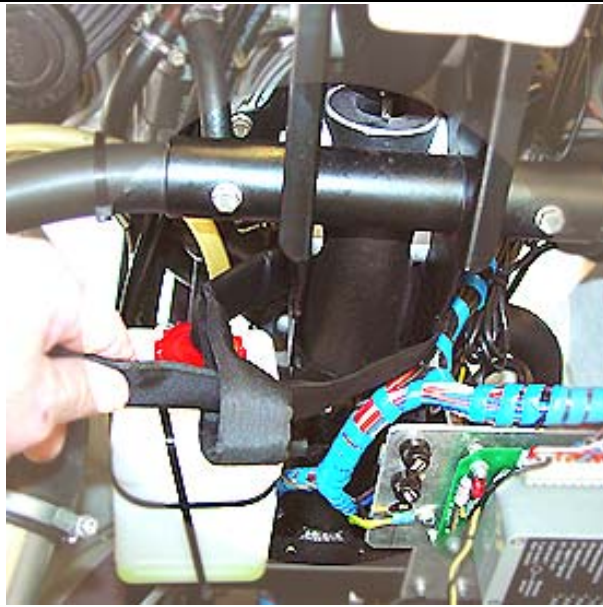

Figure 2-8: The free end of the Harness being pulled through the loop.
- 2.4 Pull the Harness all the way through, until it is snug against the vertical mast, as illustrated in Figures 2-8 and 2-9.